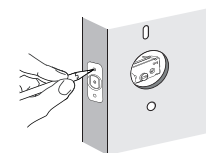

Figure 3e
- Insert Deadbolt Assembly in hole keeping it parallel to face of door. Mark outline and remove deadbolt (Figure 3e).